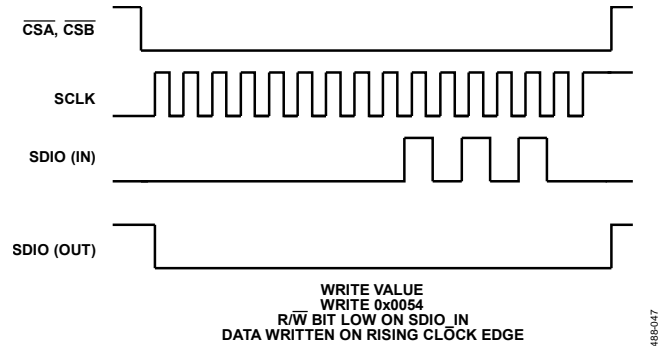
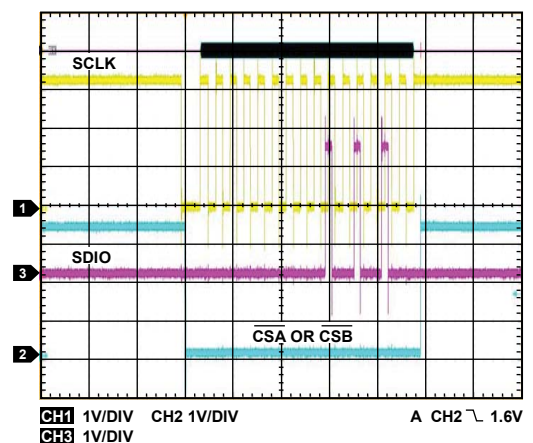
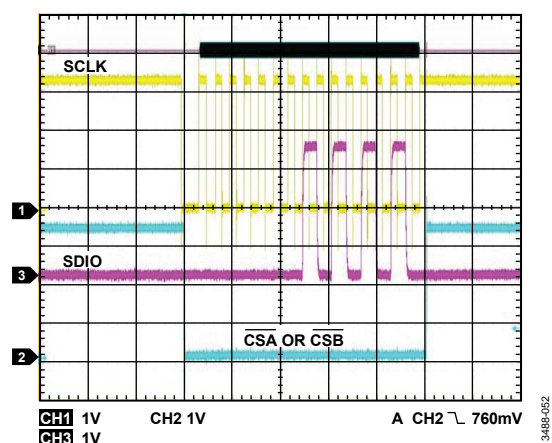

Figure 54. Write Gain Control Word
Figure 57. Write Gain Control Value, 0x0054
Figure 59. Read Back Value, 0x0154
The ADL5205 can be read back only in the serial mode, during a read cycle (from  $\overline{\text{CSA}}/\overline{\text{CSB}}$  low to  $\overline{\text{CSA}}/\overline{\text{CSB}}$  high) after the R/W bit is set high in the previous cycle. During the read cycle, data changes at each rising edge of SCLK, and can be latched using the falling edge of SCLK. There is no continual read operation. A logic high (1) must be written into the R/W bit to enable the subsequent read cycle. The sequence for reading back is shown in Figure 54 to Figure 57, showing the operation of the input and output functions of the SDIO pin. The actual waveforms during the readback process are shown in Figure 57 to Figure 59. SDIO is enabled as an output only during the read cycle in Figure 57.